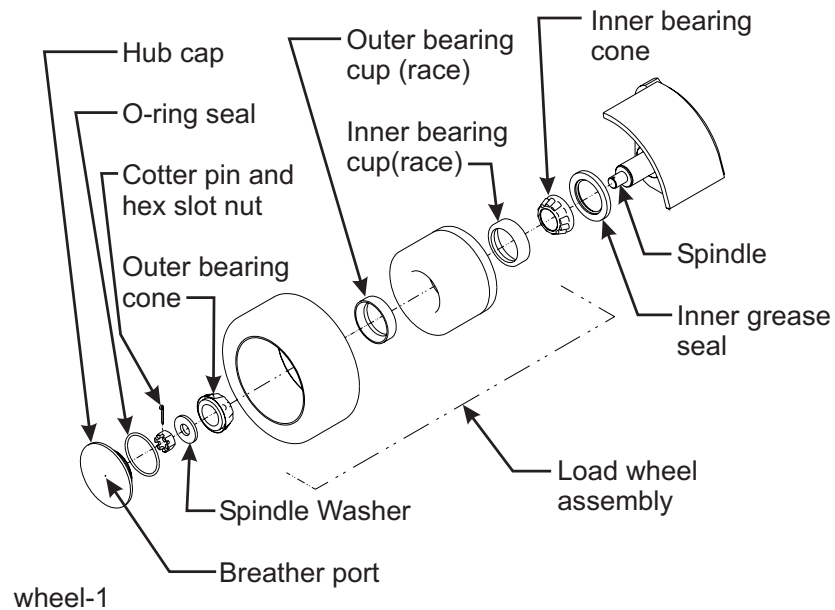

Figure 6-26 Removing the Hub Cap and Wheel
5. Remove (pry off using flat blade screwdriver) the wheel rim cover (hub cap). Clean excess grease from around the spindle (See Figure 6-26).
6. Remove the cotter pin. Unscrew the hex slot nut (use open-end wrench) and remove the nut and spindle washer (See Figure 6-26).